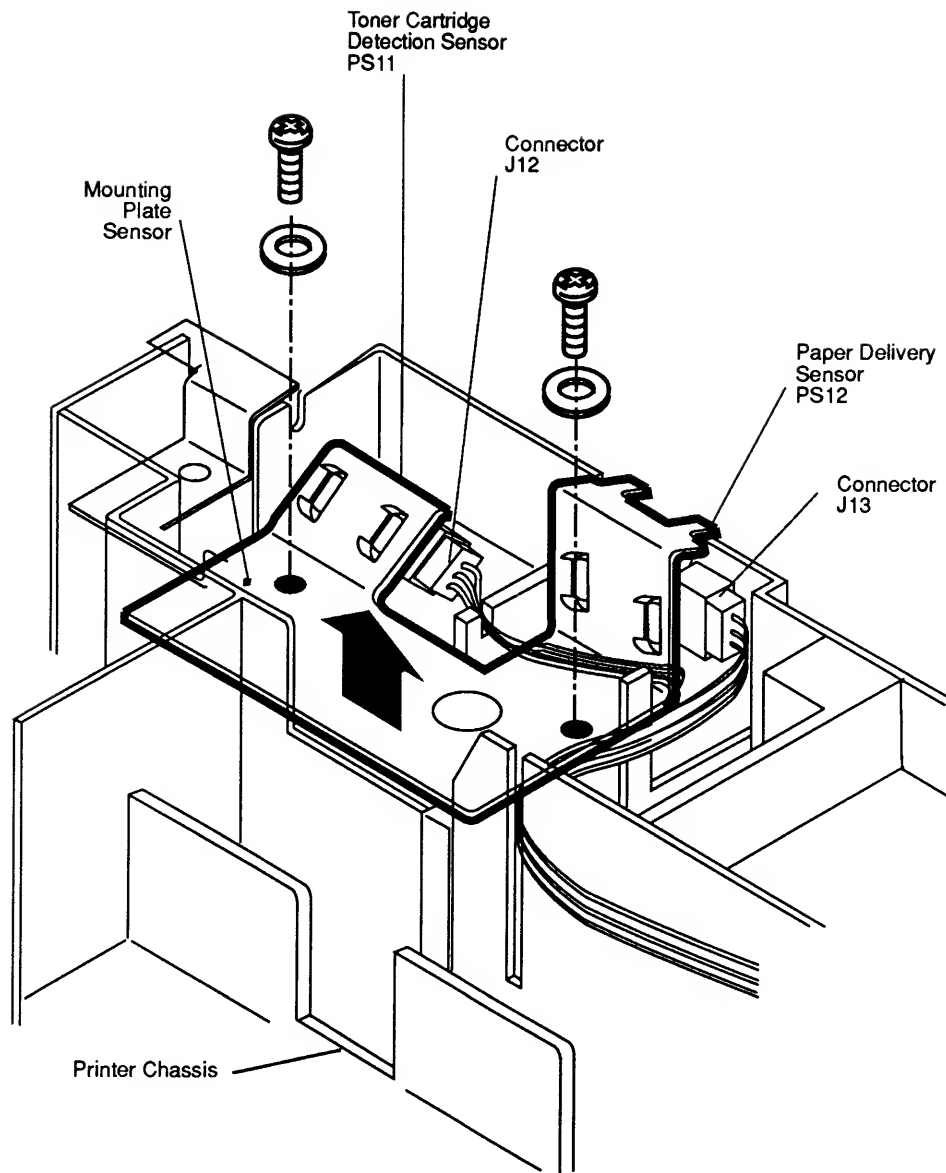

Figure 2-18 Mounting Plate Sensor
3. Remove the two black screws and washers that secure the mounting plate sensor to the printer chassis (**Figure 2-18**).
4. Lift the mounting plate sensor slightly (**Figure 2-18**).
5. Disconnect connector J13 from photo-interrupter PS12, the paper delivery sensor (**Figure 2-18**).
6. Disconnect connector J12 from photo-interrupter PS11, the toner cartridge detection sensor (**Figure 2-18**).
7. Lift the mounting plate sensor out of the printer (**Figure 2-18**).
1. Reconnect connector J12 (grey wires) to photo-interrupter PS11 on the mounting plate sensor (**Figure 2-18**).
2. Reconnect connector J13 (purple wires) to photo-interrupter PS12 on the mounting plate sensor (**Figure 2-18**).